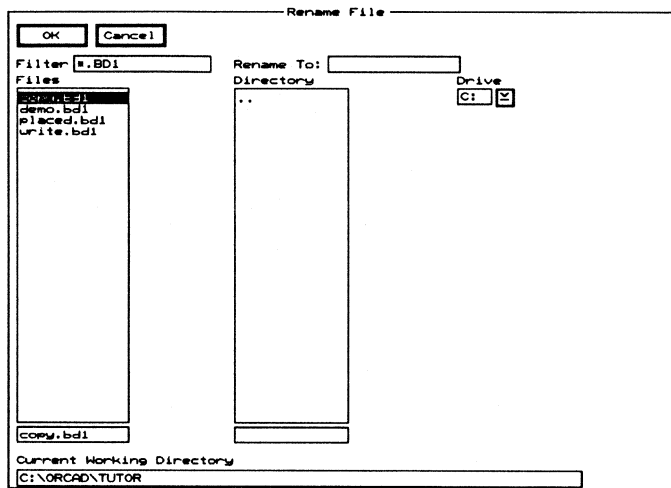

Figure 4-15. The *Rename File* dialog box.
2. Select **COPY.BD1** in the **Files** list box, then select **Rename**. The **Rename File** dialog box displays (figure 4-15).